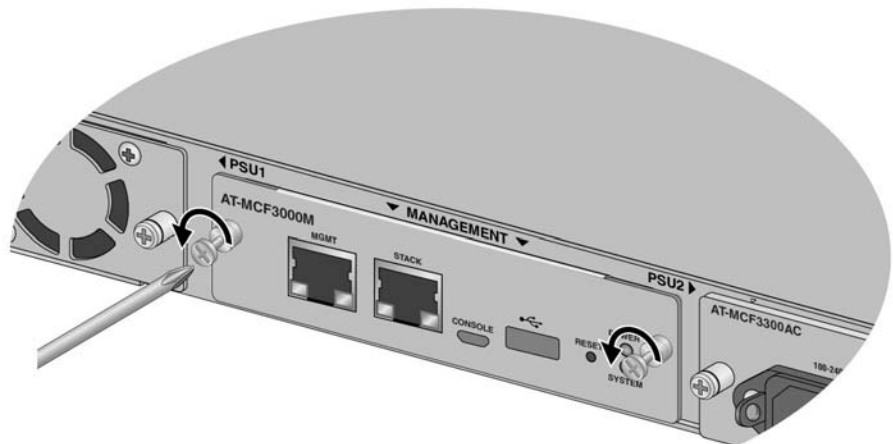

Figure 78. Loosening the Captive Screws on the MCF3000M Management Module
2. Loosen the two captive screws on the management modules with a cross-head screwdriver. Refer to Figure 78.